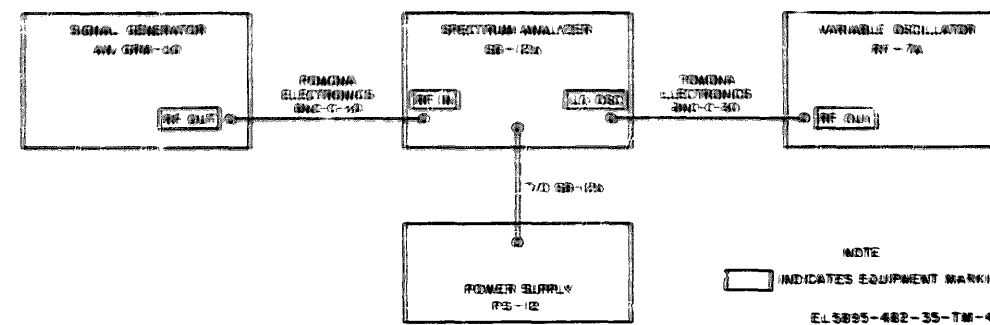

Figure 5-182. 653B modulator, alignment reference level, test setup diagram.
- a. Connect test equipment as shown in figure 5-182.